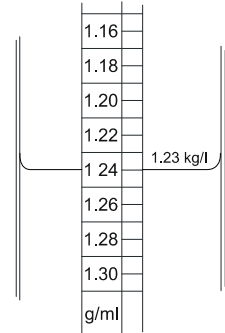

Figure 5-7. Measuring Electrolyte Specific Gravity
- Read the value as indicated in Figure 5-7.